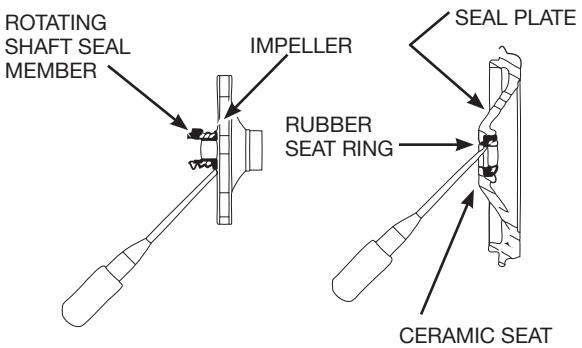

Figure 13 - Removing Shaft Seal and Ceramic Seat
10. Remove the shaft seal from the impeller, make sure the stainless steel sleeve comes off the impeller, all you should see on the back of the impeller is the brass colored threaded insert. (Figure 13)
11. Remove the ceramic seat and rubber boot part of the seal from the cast iron seal plate. (Figure 13)